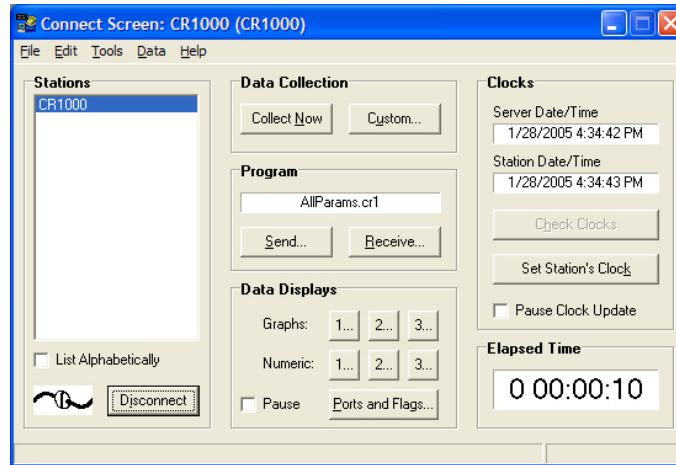

Figure 5. Connect program window displaying CR1000 Logger parameters
6. Communication with logger will be established and the following screen will appear (See Figure 5). Set date/time information in this window if needed.